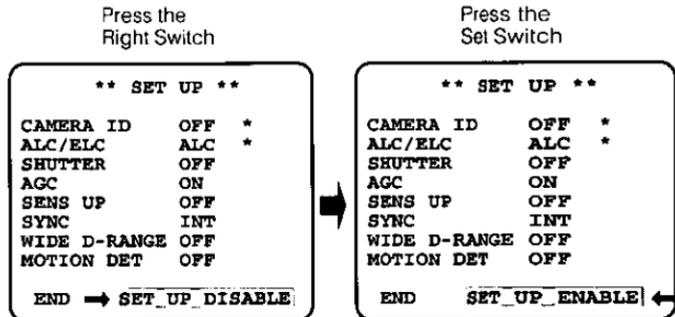

Fig. 20
- Display the Setup menu as shown in Fig. 20.
- Move the cursor to the "ALC/ELC" mode position and select either the "ALC" or "ELC" mode by using the Left Switch (<) (7) or Right Switch (>) (6).